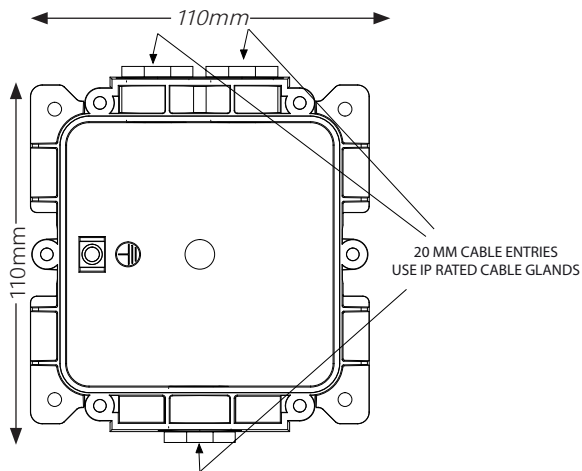

Fig 1 Backbox
- Place the earthing plate behind the backbox (see Earth continuity plate section). Fit the backbox to a flat surface using the four fixing holes. The cable entry holes should be in the vertical plane. The backbox can be mounted with either the single or double entry holes at the top. (Fig 1).